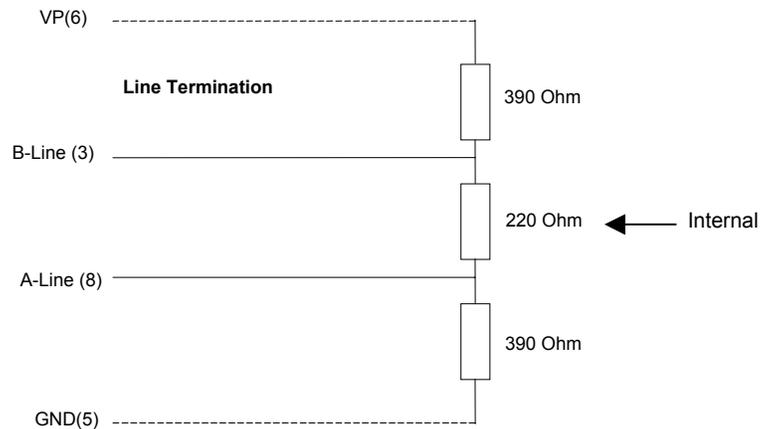

Figure 4.2
- b. It is necessary to terminate both ends of the network. Both terminations must have power to them to insure proper operation of the network. The following diagram (**Figure 4.2**) illustrates the correct connection for the termination resistors.
NOTE: The above wiring diagram (Fig. 4.2) is for illustrative purposes only. Cabling and connectors should be PTO-approved to achieve the desired performance results. See Section 4.1.3 for recommended part numbers.